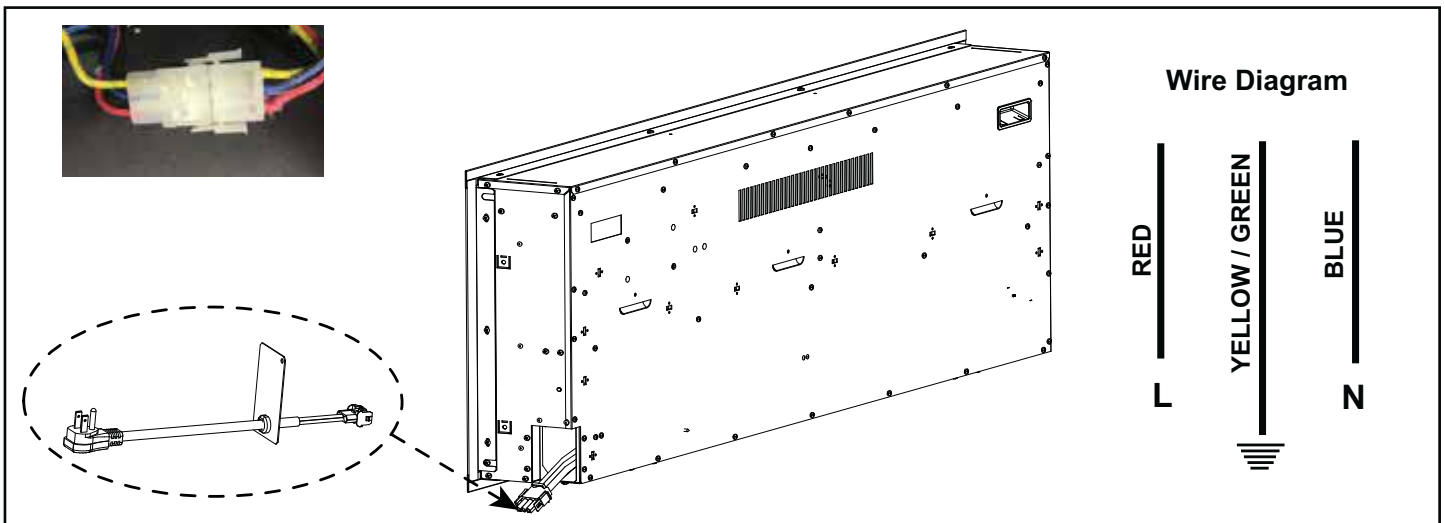

Figure 4.6 Optional Power Cord Assembly
3. Connect the three conductor wire connector to the connector on the block supplied with the power cord kit. See Figure 4.6.